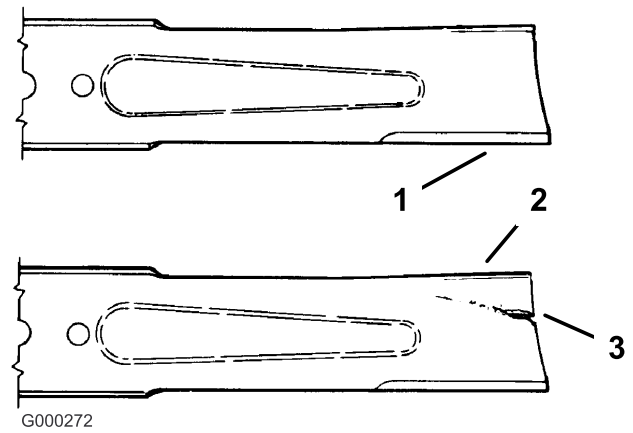

Figure 72
1. Inspect the cutting edges (Figure 72).
2. Inspect the blades, especially the curved area (Figure 72).
If you notice any damage, wear, or a slot forming in this area (Figure 72), immediately install a new blade.